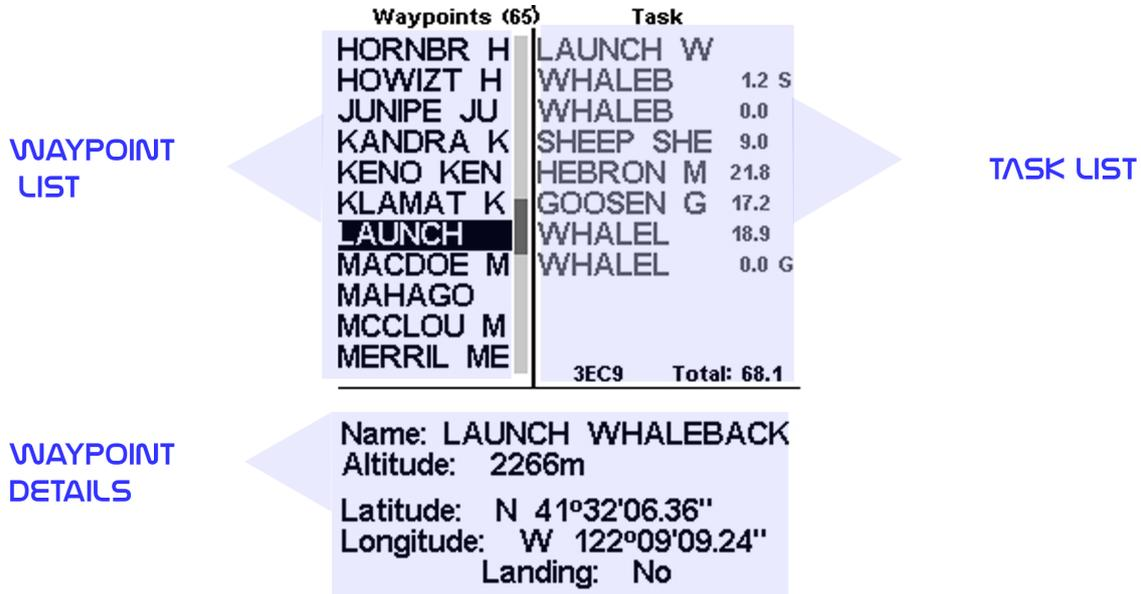
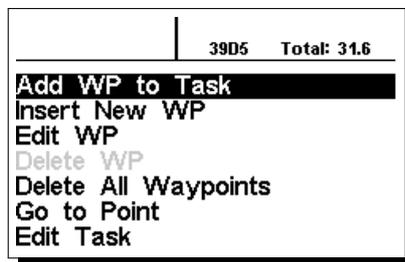

Figure 4.2: Waypoints and TaskScreen
Figure 4.3: Waypoints Action Menu
The Waypoints/Taskpage allows the user to manage waypoints, and define a route/task. As shown in Figure 4.2, the page is divided into 3 areas, namely the waypoint list (WL); Tasklist (TK) and selected waypoint details/options list (DO). The DO area can change according to which submenu you are in. Specifically, it can show the selected waypoint data, or a list with possible actions for the waypoints. Entering the page activates the WL area. At the top of the page next to the title Waypoints, is the total number of Waypoints stored in the LIVE SD instrument¹. The first waypoint on the list appears highlighted, and the corresponding data of the selected waypoint is shown in the DO area. As the cursor is moved to a different waypoint so the data changes matching the newly selected waypoint. If the waypoints list is empty a list of available actions is shown in the DO area. Since no waypoint exists only the *Insert new Waypoint* action is available. Pushing the ENTER key when a waypoint is selected activates the waypoint actions menu (WAM). A list with the available actions is shown in the DO area Figure 4.3.
Available WAM options appear in black, otherwise in grey. For example, in Figure 4.3 the option *Delete WP* is in not available because the Waypoint list is empty.